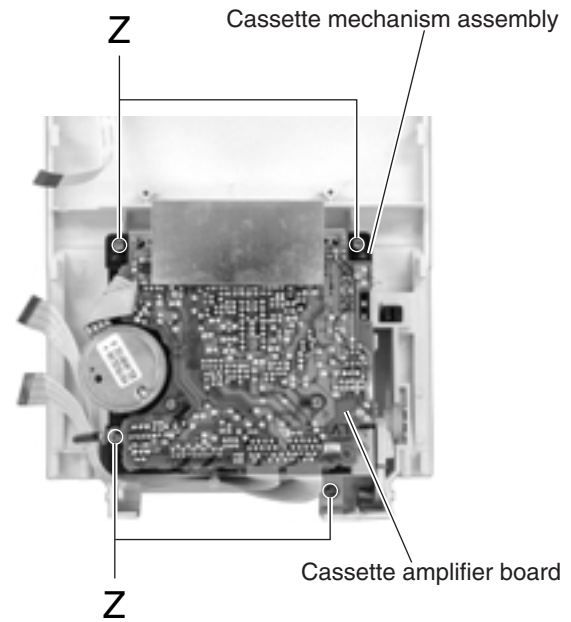

Fig.41
■ Removing the cassette mechanism assembly (See Fig.41)